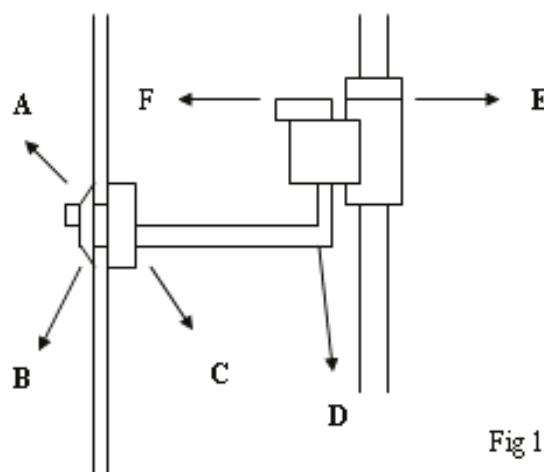

Fig 1
1. Prepare the panel by cutting a hole approximately 42mm in diameter. Mount the push button in the hole as per Fig. 1